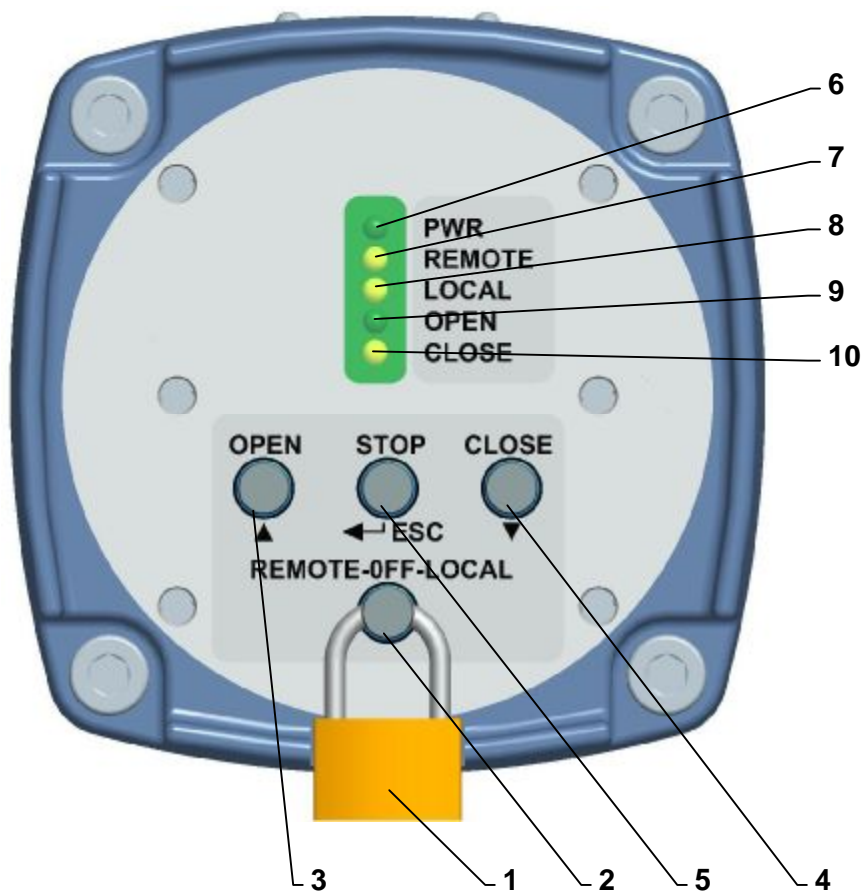

Fig. 15
4.10 Electric local control (Fig.15)